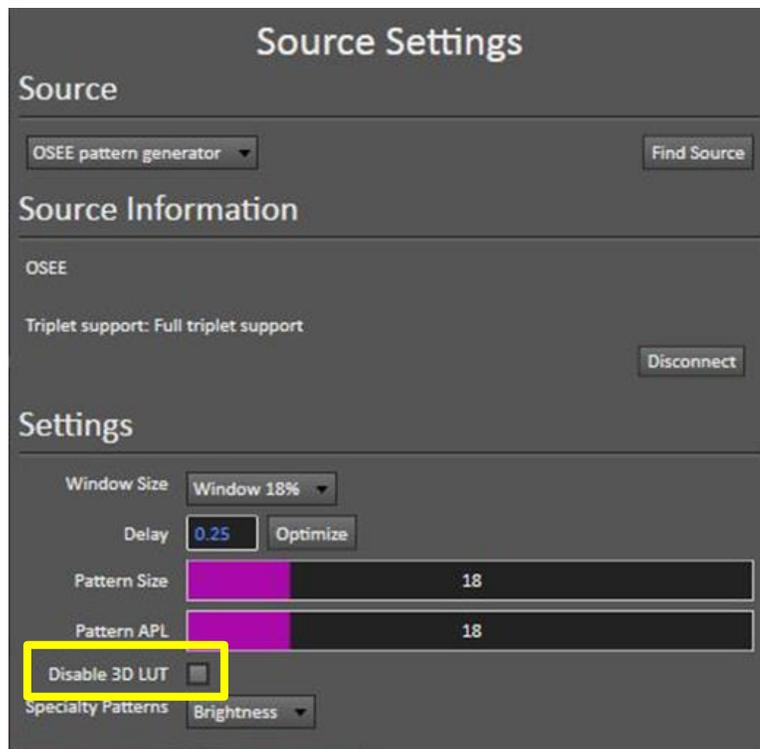

Figure 3. CalMAN Source Settings tab, for selecting options for the test pattern source.
6. On the CalMAN *Source Settings* tab (Figure 3), check the "Disable 3D LUT" box.